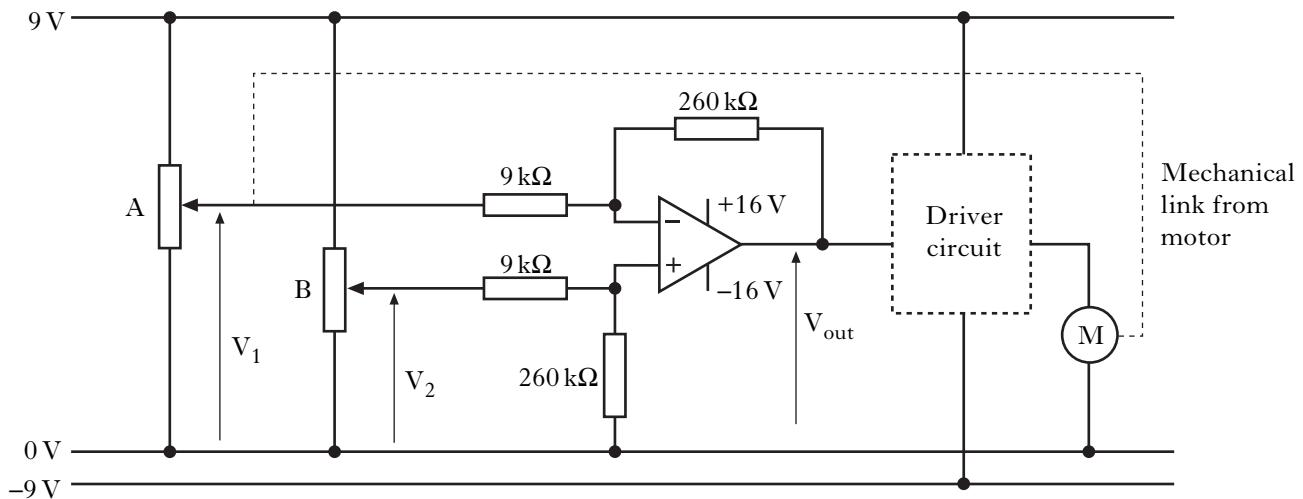

Figure Q10(c)
A motor in each spotlight moves a lens backwards or forwards to adjust the focus of the light. The motor is controlled by the circuit shown in Figure Q10(c).
- (d) For the circuit shown in Figure Q10(c):